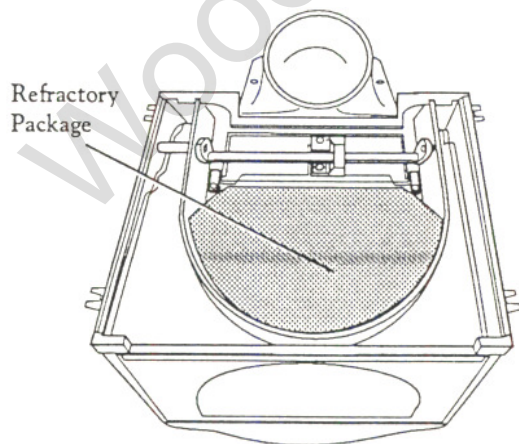

Fig. 4 Remove Refractory
2. Remove the top plate. Carefully remove the refractory package from within the inner top. Leave the catalytic element in place, but take care not to damage it (**Fig.4**).